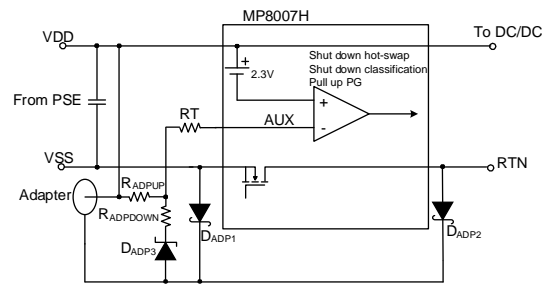

Figure 4: Adapter Power Detection
For applications where an auxiliary power source such as a wall adapter powers the device, the MP8007H features wall power adapter detection (see Figure 4). Once the input voltage ($V_{DD} - V_{SS}$) exceeds about 11.5V, the device enables wall adapter detection. The wall power adapter detection resistor divider is connected from VDD to the negative terminal of the adapter, and D_{ADP3} is added for a more accurate hysteresis. There is a -2.3V reference voltage from AUX to VDD for adapter detection. The adapter is detected when the AUX voltage (V_{AUX}) triggers, calculated with Equation (1):